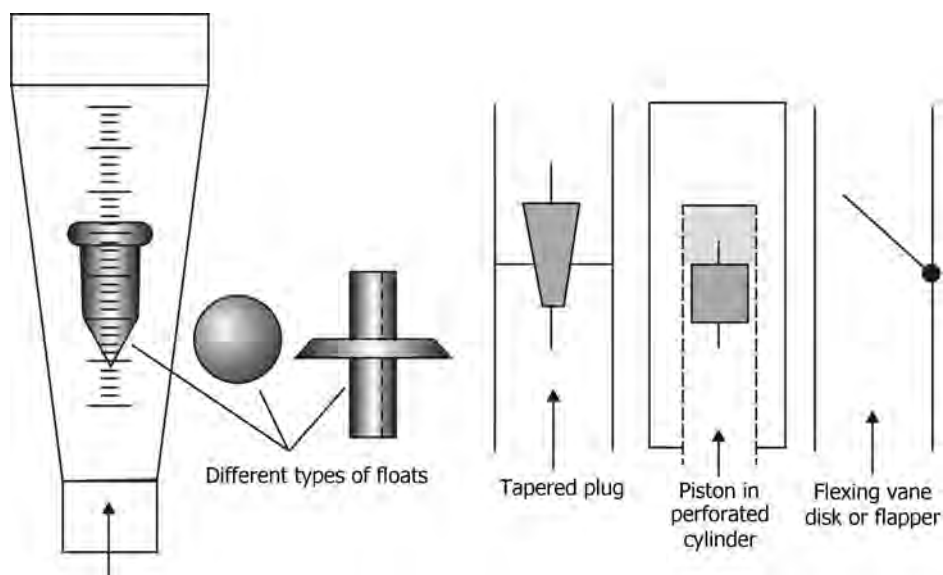

FIGURE 4.19 Rotameter showing different types of float designs.
- Figure 4.19 shows designs of different types of rotameters.